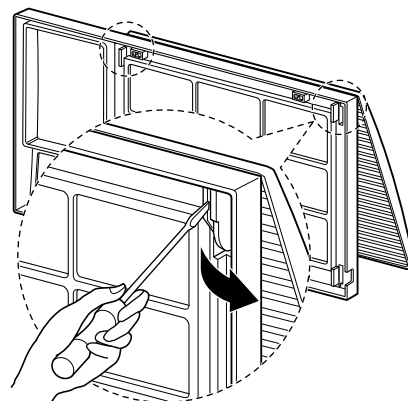

Figure 30
1. If you want to pull out the filter upward, open the inlet grille slightly. Turn inside out the front grille. Disassemble the inlet grille from the front grille with separating the hinged part by inserting a "—" type screw-driver tip. Rotate the inlet grille 180 degrees and insert the hooks into the lower holes of front grille. Then, insert the filter (See Figure 30, 31)